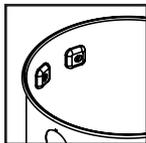

FIGURE 17
12. Position the tank, in the upright position, with the inlet facing you. Put the support assemblies inside the tank, then place the screws through the holes provided on left side of the tank. Make sure the plastic portion is located inside the tank. Turn the supports until the back of the supports fit flush against the inside curve of the tank. **FIGURE 17.**